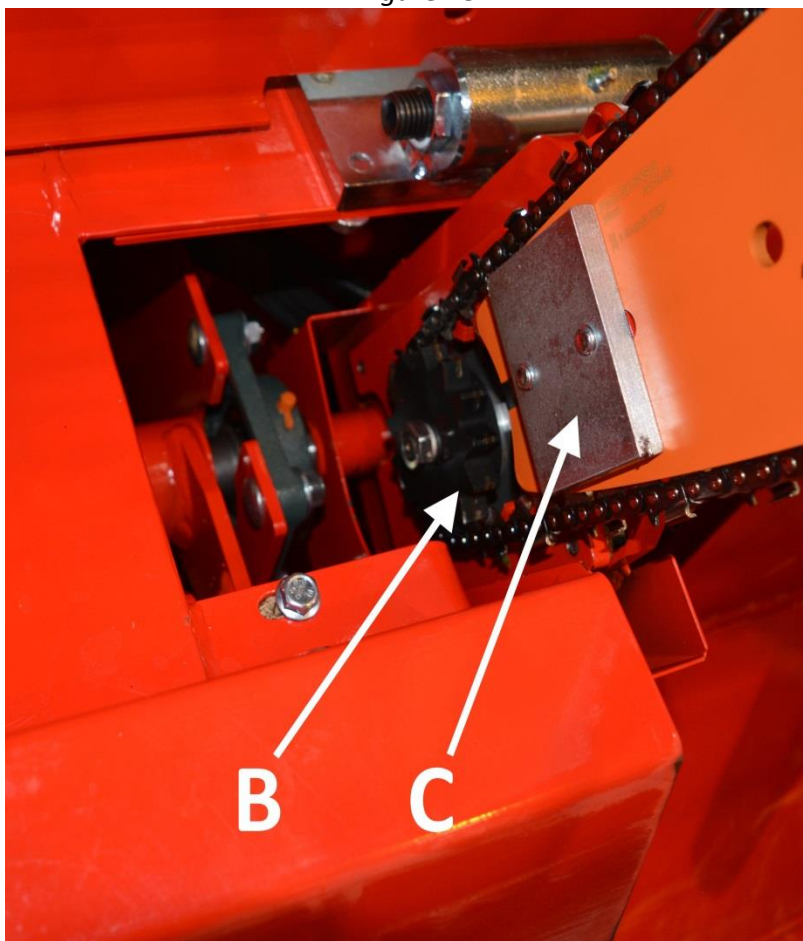

Figure 26.
3. Remove fastening plate C (Figure 26) and remove the saw bar from the groove.
4. Place the new bar against gear wheel B, twist it into the groove and loosely attach the saw bar bolts (A) and fastening plate C.